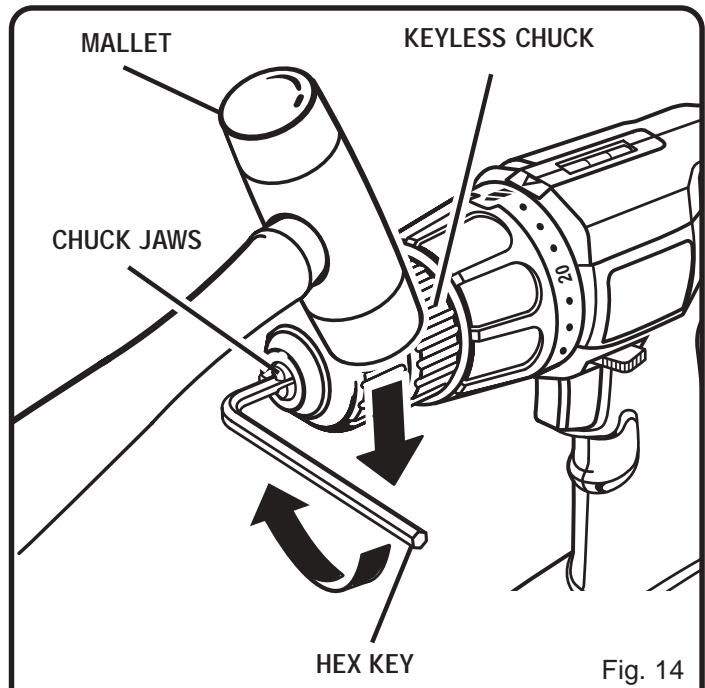

Fig. 14
See Figures 14, 15, and 16.
- Tap the hex key sharply with a mallet in a clockwise direction. See Figure 14. This will loosen the screw in the chuck for easy removal.